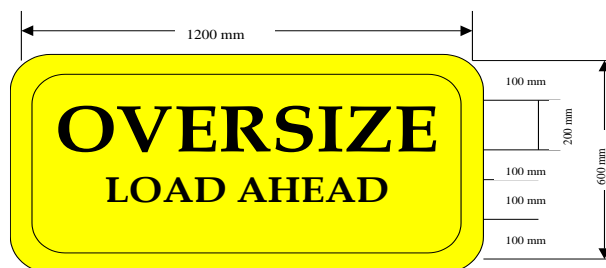

Figure 1: example of a warning sign for a pilot vehicle
- Both faces of a warning sign on a pilot vehicle (see figure 1) must display: